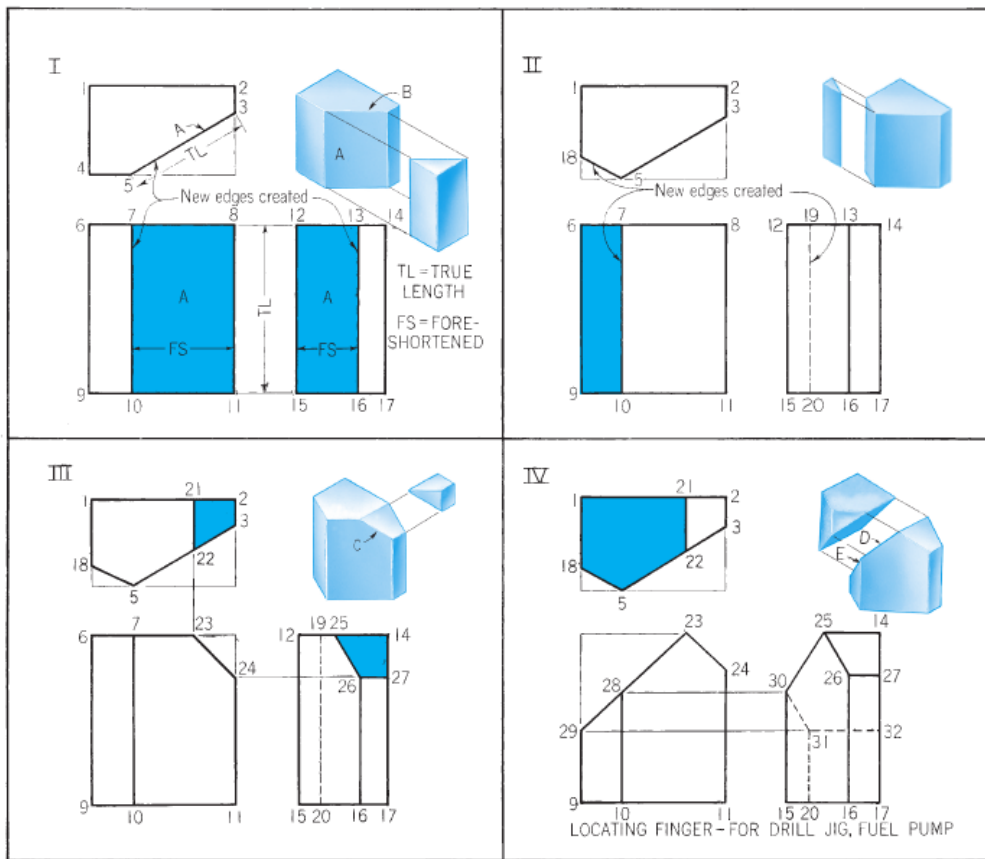

FIGURE 6.25 Machining a Locating Finger—Inclined Surfaces.
- An inclined surface projects as a straight line on the plane to which it is _____. It appears foreshortened (FS) on planes to which it is _____, with the degree of foreshortening being _____.
- Figure 6.25 above, shows four stages in machining a locating finger, producing several inclined surfaces.